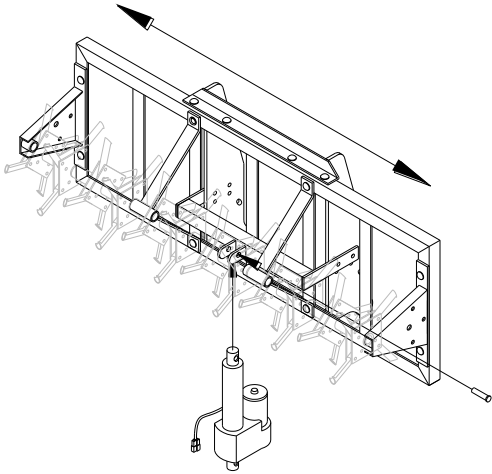

FIG. 9
9. Center aerator frame on drive-tires of mower. The entire assembly should still be able to slip on the crosstubes because clamp halves are not tightened yet. Pin cylinder onto lower cylinder mount (on aerator) with $\frac{1}{2}$ " x 2" clevis pin and hairclip cotter pin provided. (Note: the extension shaft of the cylinder is the end needed to mount to location. **FIG. 9**